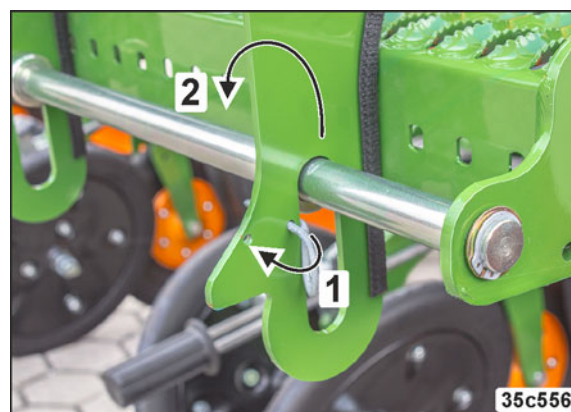

Fig. 240
- 3.1 Remove the spring cotter pin (Fig. 240/1).
- 3.2 Lift the step and then fold it down (Fig. 240/2).